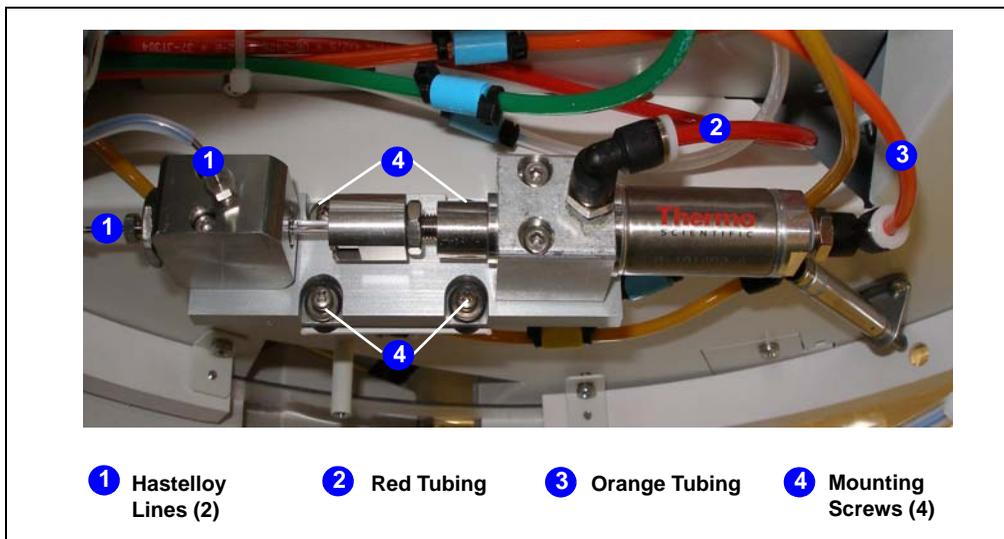

Figure 5-21. Removing the Static Valve
9. The static valve is located above the drip tray. Using a 1/4-inch open-end wrench (P/N 014605), disconnect the two Hastelloy lines from the valve (see Figure 5-21, ①).